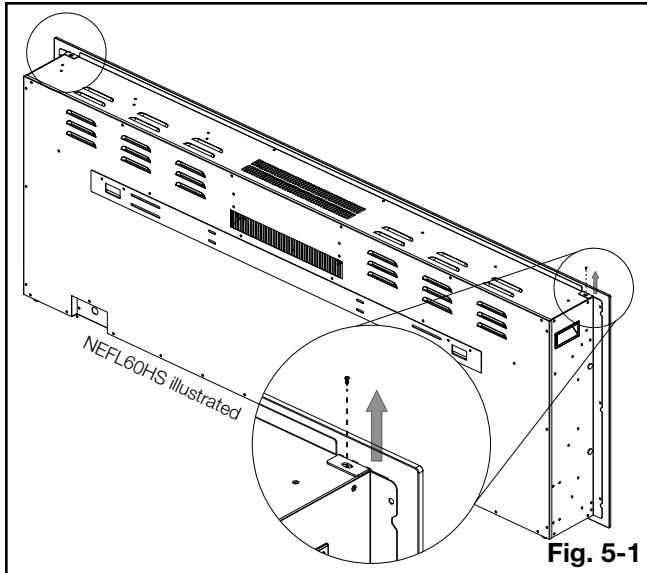

Fig. 5-1
- With one hand on the front glass to prevent it from falling, remove the two screws (1 per side) from the top of the appliance (**Fig. 5-1**). Set the screws aside.